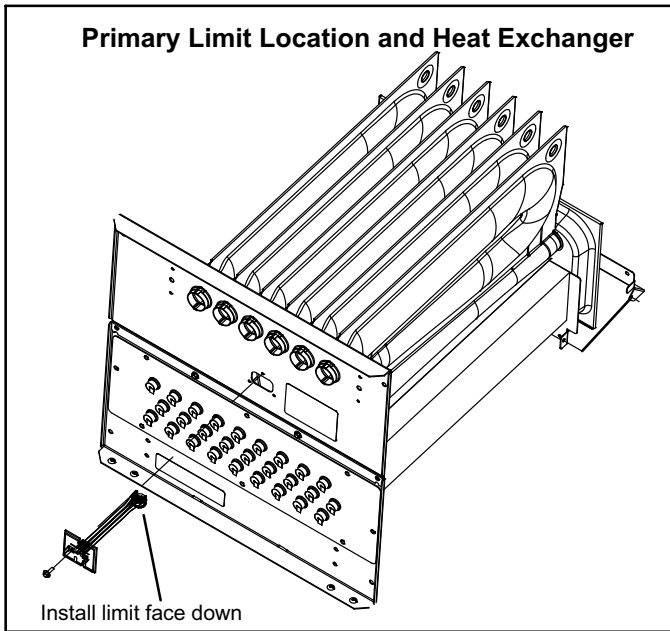

FIGURE 6
2. Heat Exchanger (Figure 6)
3. Primary Limit Control (Figure 6)